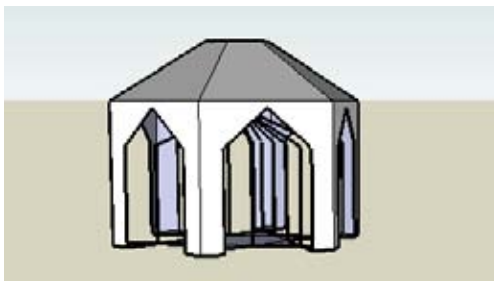

Figure 3-23
8. Erase the peak face within each vertical face, and you have just holes and edges (Figure 3-23). Those edges are the where the cutout groups intersected each other.